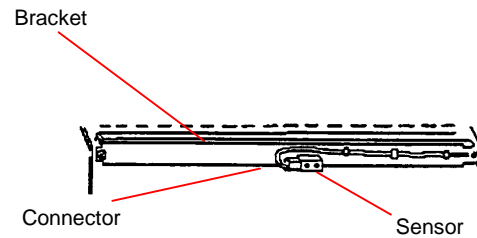

Figure 2. Removing the Sensor
3. (Figure 2): Remove the two screws and the Sensor Bracket.